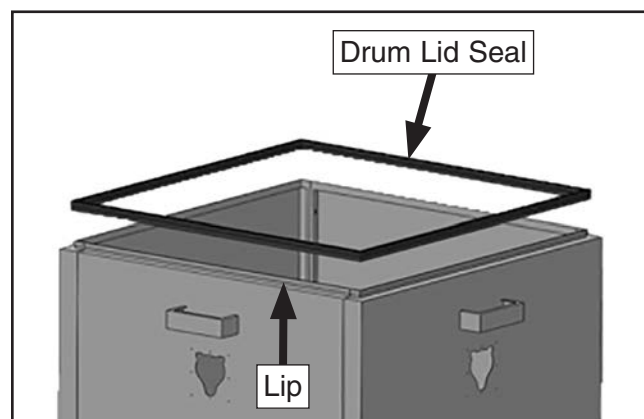

Figure 34. Attaching drum lid seal to drum assembly lip.
43. Turn assembly over and attach drum lid PVC rubber seal to lip of drum assembly (see **Figure 34**).